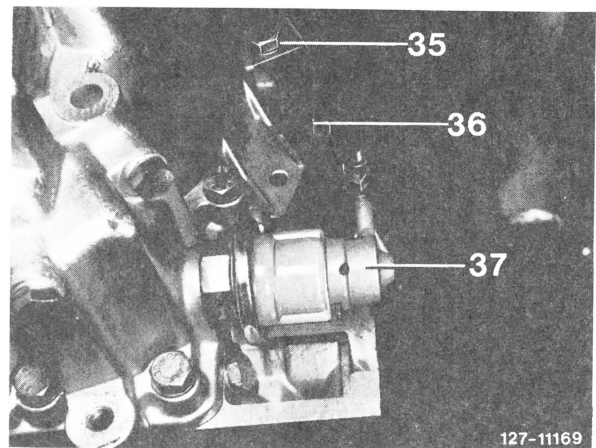

Fig. 10
On transmission with vacuum boxes made of plastics, unscrew bracket (35) and pull rubber hose (36) from closing cap (37) (Fig. 10).
Transmission with plastic vacuum box; screw-on bracket (35) and attach rubber hose (36) (Fig. 10).